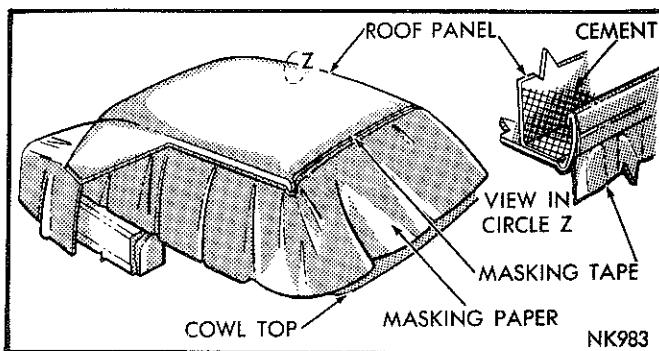

Fig. 1—Masking the body (typical)
- (1) Mask off areas of the vehicle which may become contaminated with adhesive during vinyl roof cover fitment (Fig. 1).